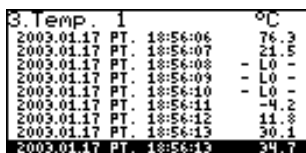

Fig. 6.5. "Measurements list" mode
- **"Measurements list"** mode (Fig. 6.5) enables the momentary values recorded during the set period of time or averaged values of the conducted measurements for one of the measurement channels to be viewed in numeric form.